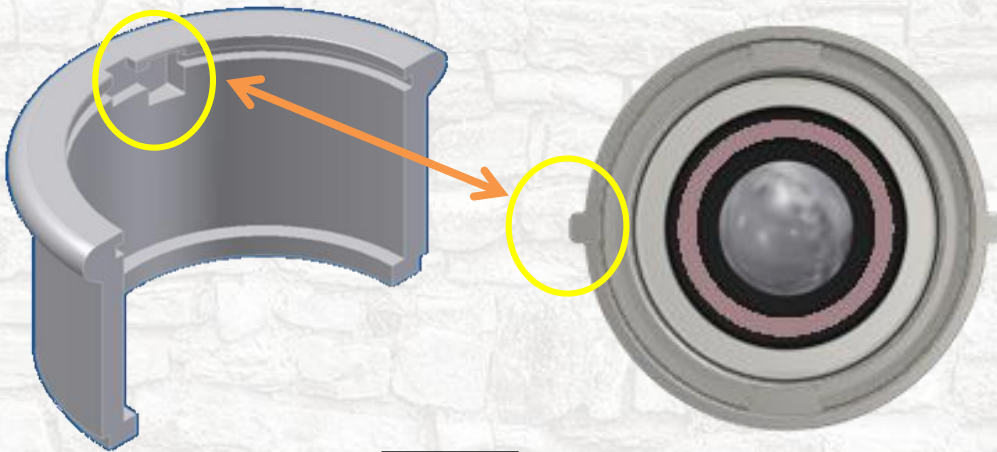

Fig. 1
- Drop-in spears: Squared “ears” on body fit in the Z-slots in keg neck (fig. 1)